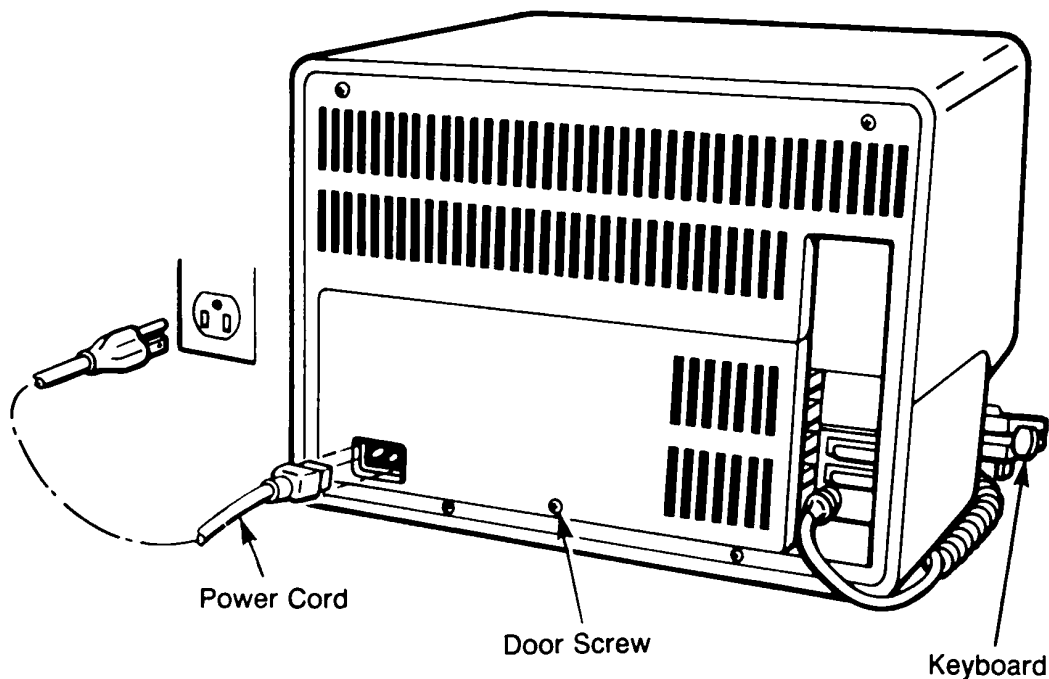

Figure 7-1 Access Door Removal
5. Remove the access door screw shown in Figure 7-1.